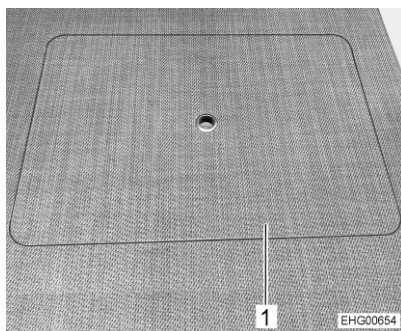

Fig. 34 Service cover in double floor
- Open one of the service covers (Fig. 34,1) in the living area.